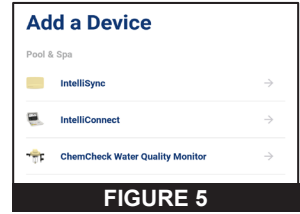

FIGURE 5
3. The Add a Device screen will display (**FIGURE 5**). Select PROWLER 930W from the list of devices.